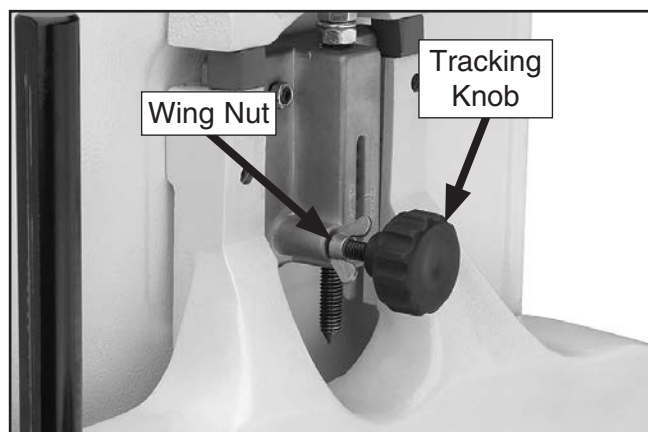

Figure 25. Tracking knob and wing nut.
7. Loosen the wing nut on the tracking knob (see **Figure 25**).